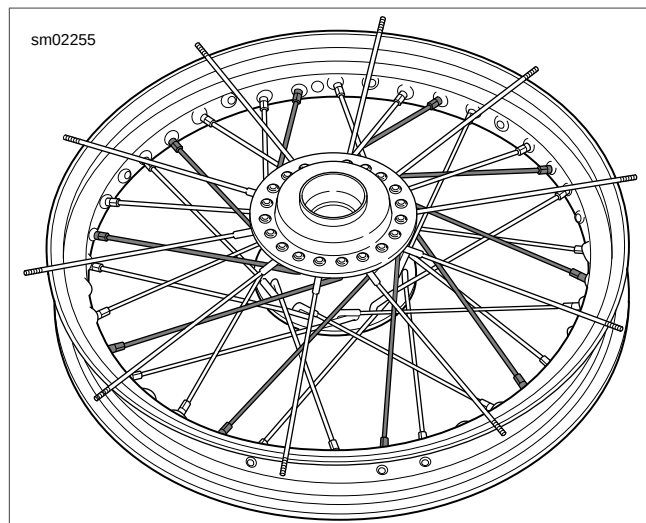

Figure 2-41. Completed Spokes: Top Flange Inner
- b. See Figure 2-41. Once you have completed the top flange of inner spokes (long head) double check for one empty hole after every third spoke.